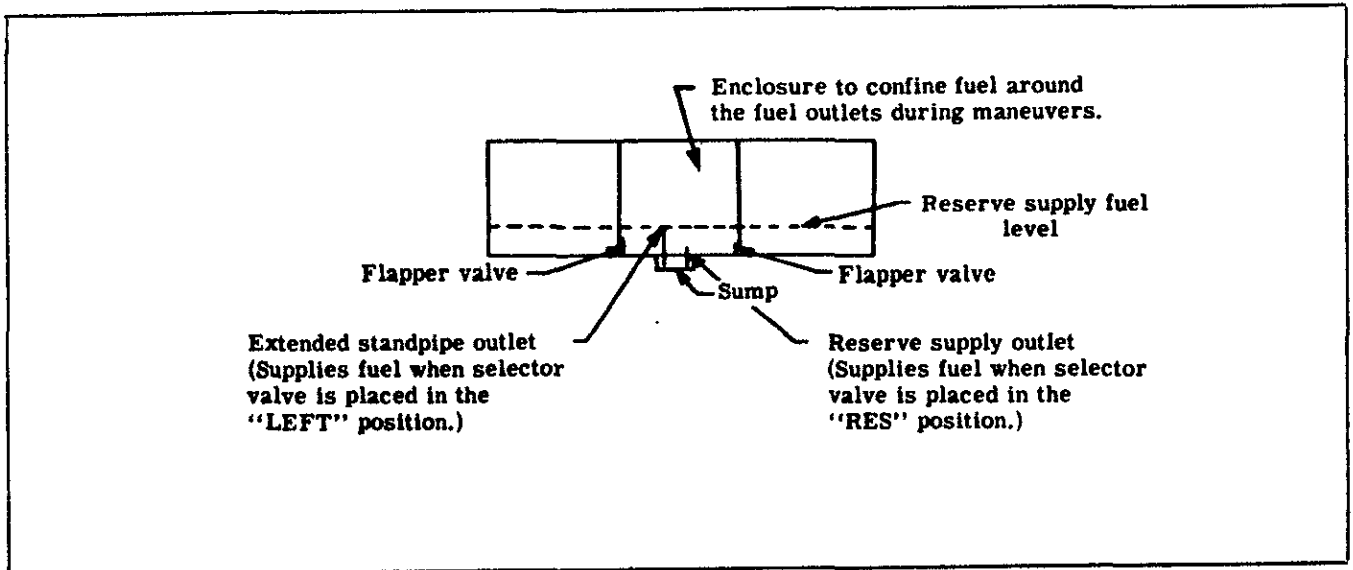
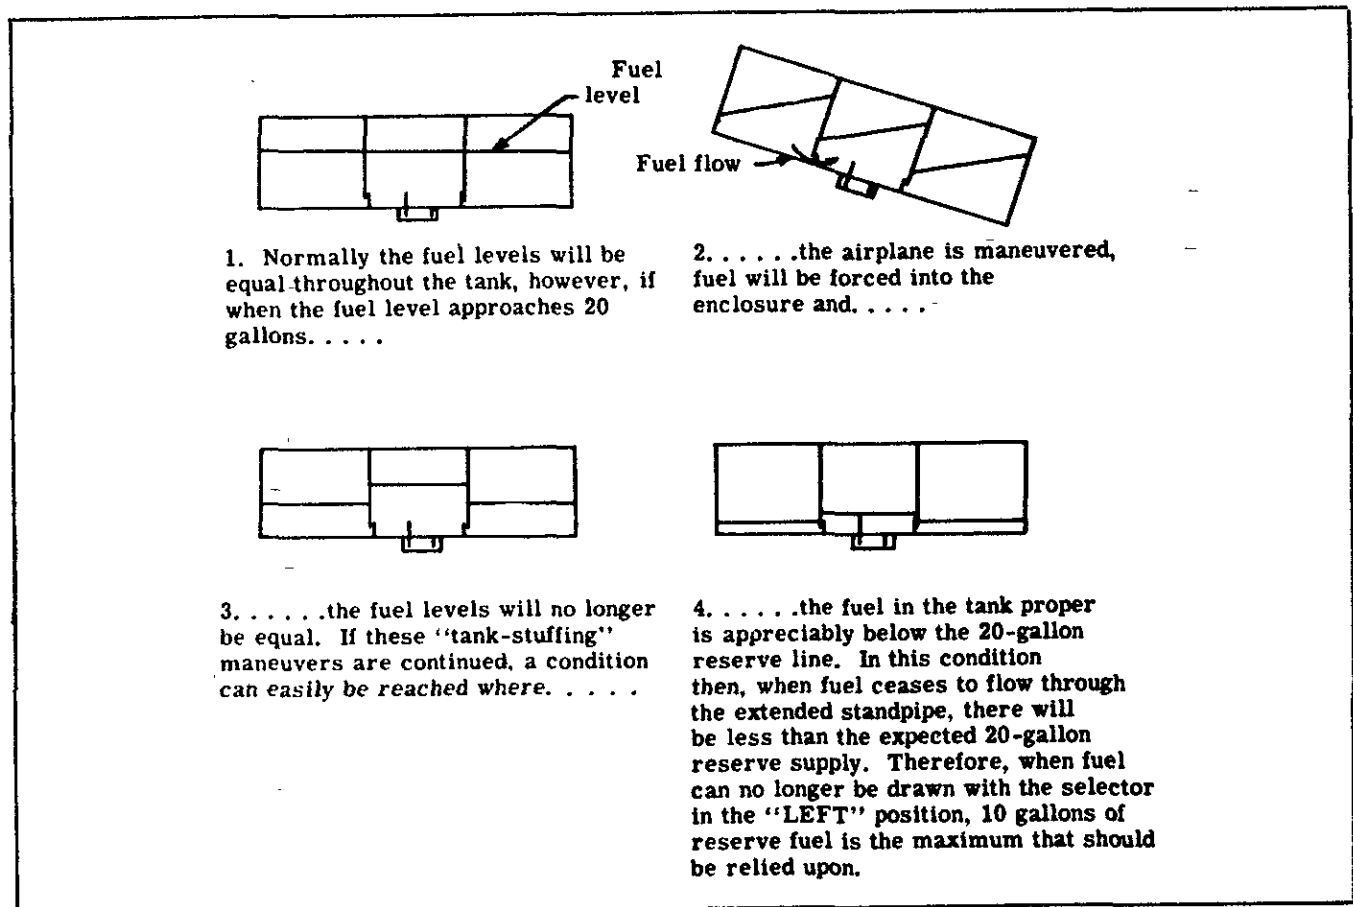

Figure 3A—Fuel Tank Detail
Figure 3B—Decreased Reserve Fuel
(1) RESERVE FUEL.—To provide 20 gallons of reserve fuel in the left tank, a fuel outlet with an extended stand pipe is employed. (See figure 3A.) This stand pipe will not supply fuel from below the level of its inlet, thus creating an unavailable supply of fuel unless the fuel selector valve is positioned properly. A separate fuel outlet is used to supply this reserve fuel. Although the system is designed to maintain a 20 gallon reserve, not more than 10 gallons can be relied on. (See figure 3B.)
(2) FUEL OUTLET ENCLOSURE.—To minimize the possibility of exposure of the fuel outlets during maneuvers, an enclosure is provided to confine the fuel around the fuel outlets. The fuel enters this enclosure by means of flapper valves which allow fuel to enter but not escape.